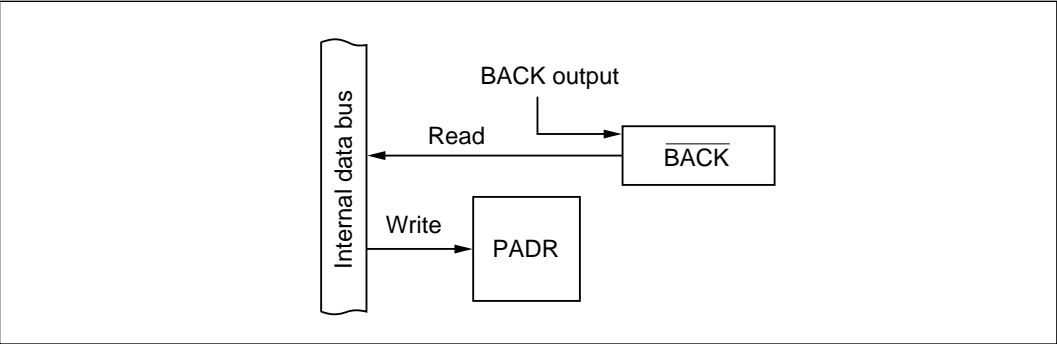

Figure 10-66 $\overline{\text{BACK}}$ Output Pin (Modes 1 to 6)
(4) **$\overline{\text{BACK}}$ Pin (PA_6 : Modes 1 to 6):** Figure 10-66 shows a block diagram illustrating the $\overline{\text{BACK}}$ function. Table 10-50 indicates register read/write data. When PA_6 is used for $\overline{\text{BACK}}$ output, the value written in the port A data register (PADR) has no effect.